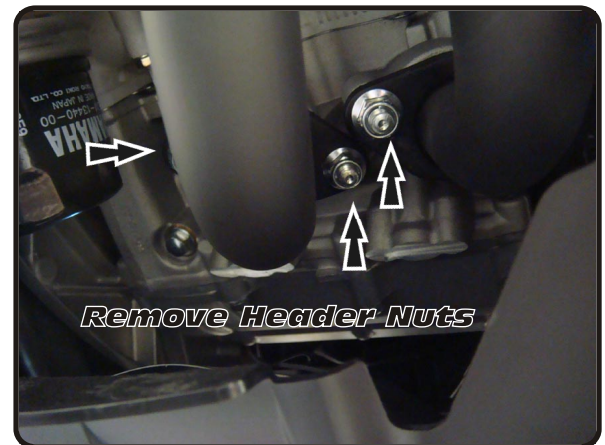

Fig. 6
- Remove header nuts. (Fig. 6)